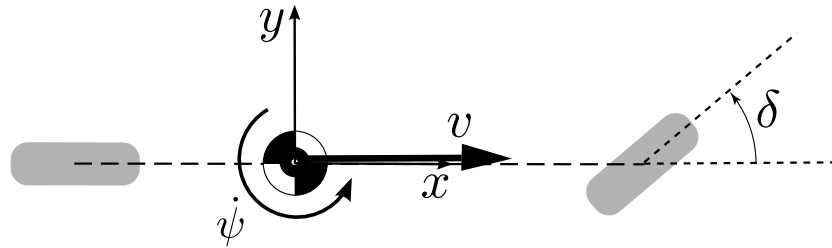

Figure 5: Bicycle model defining steering angle δ (drawn in positive direction after "ISO 8855" coordinate system \Rightarrow z up) and speed v .
- DE 7.3.1 A Data Logger (DL) described in the additionally published document "Data Logger Specification" will be mounted to the vehicle.
- DE 7.3.3 Beside Remote Emergency System (RES) messages (see DE 7.4.9), the messages defined in Table 4 must be provided to the DL with a cycle time of 100 ms each. Steering angle δ and vehicle coordinate system is defined in figure 5.